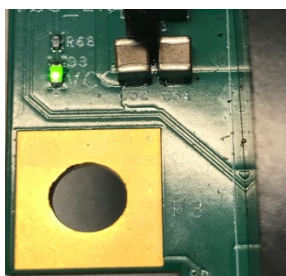

Figure 2
- Apply Vcc by **Vcc on/off switch 1** in ON position, LED diode D3 lights up (Figure 2).
- Apply external Vcc, LED diode D3 lights up (Figure 2).